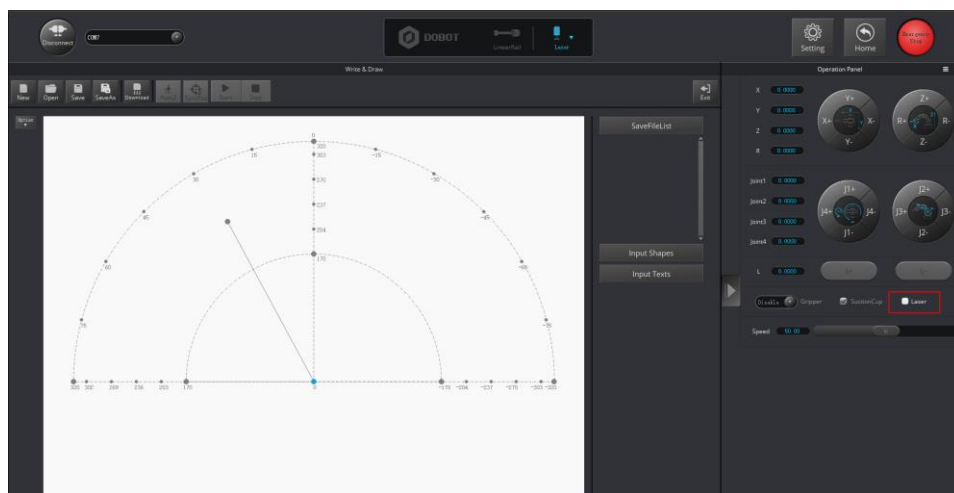

Figure 5.80 Unselect the Laser
Step 3 Press and hold the unlock button  on the Forearm to move the robotic arm to raise and lower the height of the laser kit until the laser is the brightest with a smallest possible spot size. When the laser power level is high enough, the laser beam can burn and cut the paper. After getting a pretty good focus, unselect **Laser** on the **Operation Panel** page to turn off the laser, as shown in Figure 5.80.